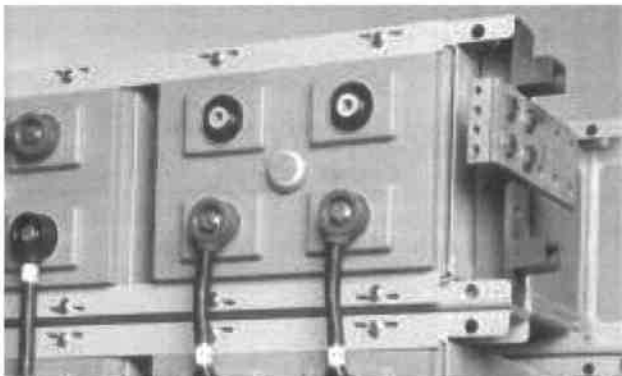

Figure 7: Main terminal bracket and terminal plate bolted to the mounting bracket
- c) bolt the main terminal bracket and terminal plate to the mounting bracket, see Fig 7.